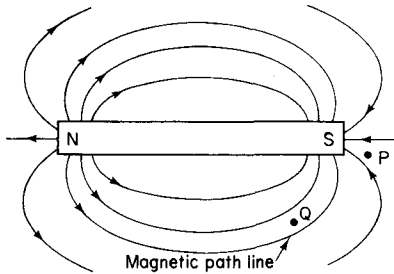

Fig. 2.95 Lines of force around a bar magnet
on the iron filings. It can also exert a force on another magnet. It follows also that the earth possesses its own magnetic field since it exerts a force on a suspended magnet to turn it to a north-south direction. Fig. 2.95 shows the lines of force around a bar magnet.
**Magnetic flux.** It is conventional to represent the direction of a magnetic field as away from a north pole and towards a south pole as shown in Fig. 2.95. It is, in fact, the direction in which an isolated north pole would move if it was free to do so.
A magnetic field contains complete magnetic paths and there are points in the field where the magnetic path lines are close together and others where the lines are far apart. Experience tells us that where the lines are far apart (which occurs at some distance from the magnet) the strength of the magnetic field is less. A strong magnet will produce magnetic path lines which are close together and a weak magnet will produce path lines which are farther apart. This gives the idea of magnetic flux. A strong magnet produces more magnetic flux than a weak one. Thus in Fig. 2.95 the field is stronger at P than it is at Q because the magnetic path lines are closer together. We say that the magnetic flux is denser at P than it is at Q and hence the field is stronger at P than it is at Q.